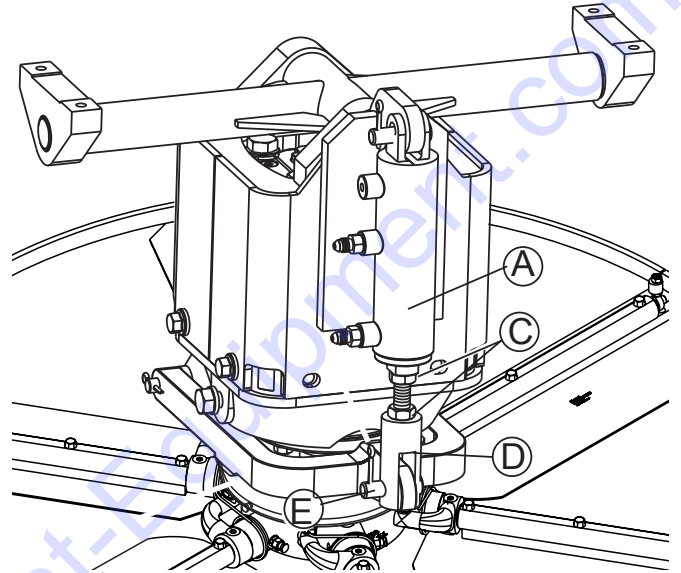

Figure 38. Blade Leading Edge Height Adjustment
3. Remove clevis pin (Item E, Figure 38). Loosen jamb nuts (Item C, Figure 38) and adjust clevis (Item D, Figure 38) to cylinder (Item A, Figure 38) position, to raise or lower pitch as required.
4. Tighten jamb nuts (Item C, Figure 38) and reinstall clevis pin (Item E, Figure 38).